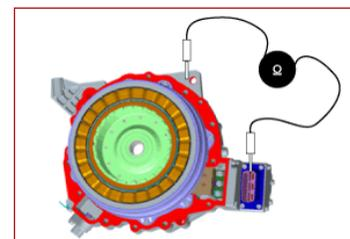

Fig. 7. (below) Motor Insulation Test
- **Motor Insulation resistance** (see Fig. 7). This test checks the stator winding resistance phase-to-ground. For more information on this test/procedure, refer to Tech Times Vol. 19 Issue 5 and Tech Times Vol. 17 Issue 4